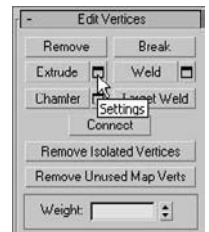
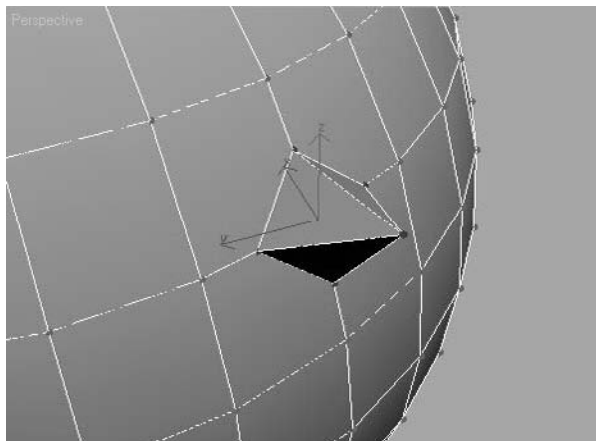

Figure 4.27
Figure 4.28
2. Select a vertex on your sphere. The vertex will turn red. Go to the Edit Vertices rollout in the Modify panel, and press the **Settings** button (next to Extrude) to bring up the dialog box shown in Figure 4.27. Set an exact extrusion height and base width, and click **Apply** to create the extrusion. You can also click and drag to interactively pull out the vertex. Figure 4.28 shows a single extruded vertex.